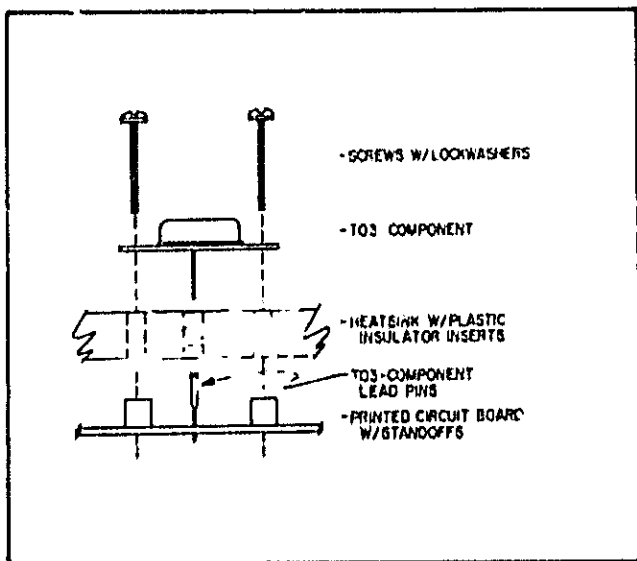

Figure 5-13. TO3 Components (A3Q1, A3Q2, A4Q1) Mounting
- d. Before re-assembly of FET board, ensure that plastic insulators for FET leads remain in heatsink. Figure 5-13 shows TO3 component mounting.
- e. Before re-assembly of output diode board, ensure that plastic insulators for Q1 leads remain in heatsink. Figure 5-13 shows TO3 component mounting.